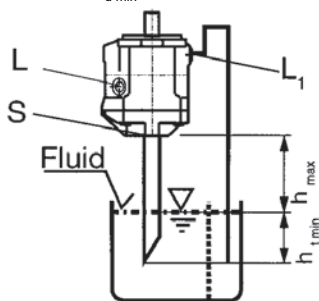

Fig. 2
b) If the minimum fluid level is below the pump mounting surface pipe port "L₁", and possibly "S" according to Fig. 2. Close port "L" with respect to conditions in 1.2.1.
For mounting above a tank see fig. 2.